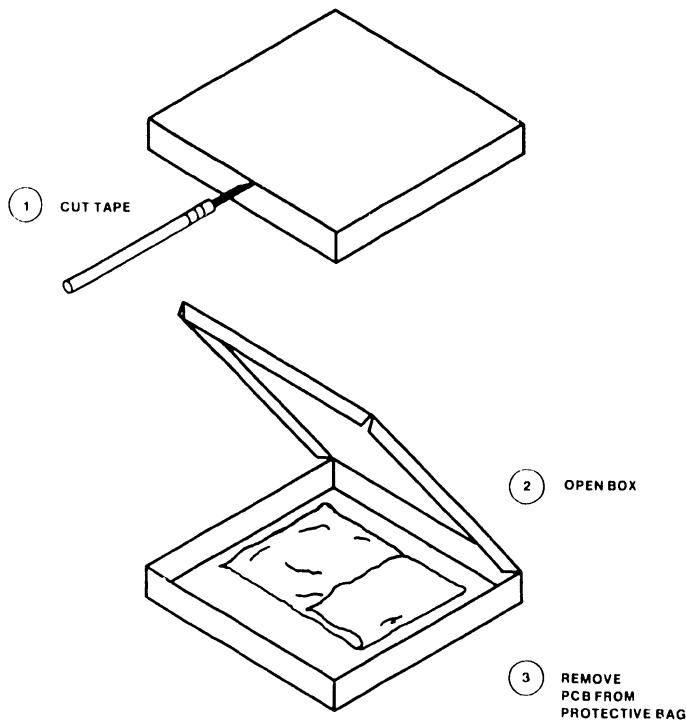

Figure E4-1 Unpacking the Async. Controller Board
3. Open the boxes and remove the PC Boards as shown in Fig. E4-1.